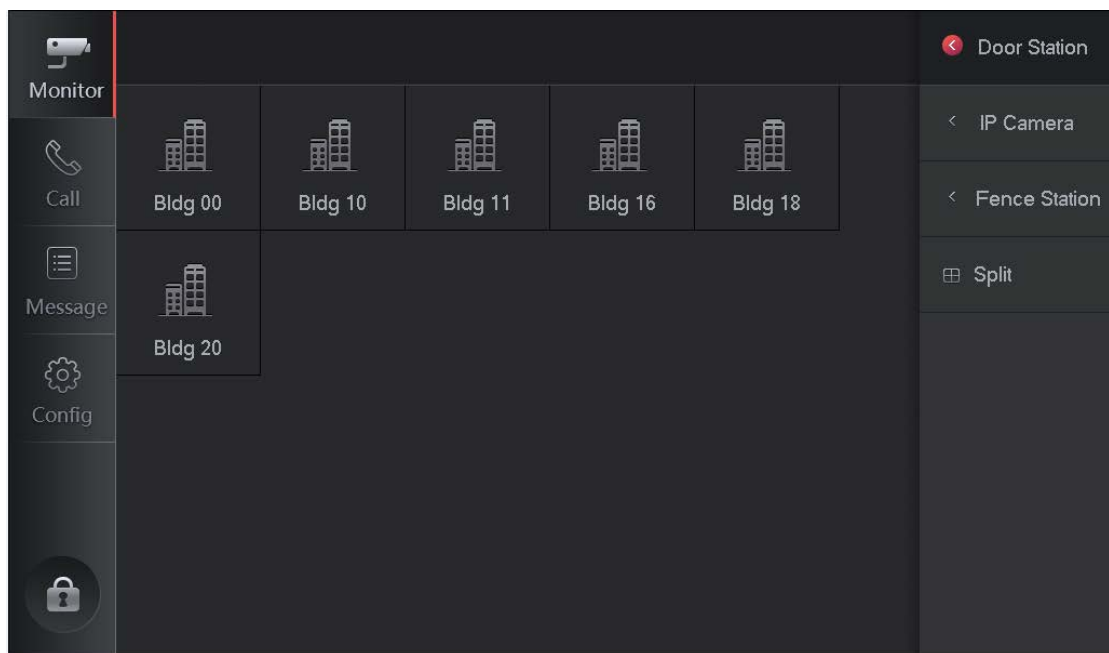

Figure 4-1
Step 1. Select Monitor>Door Station, see Figure 4-1.